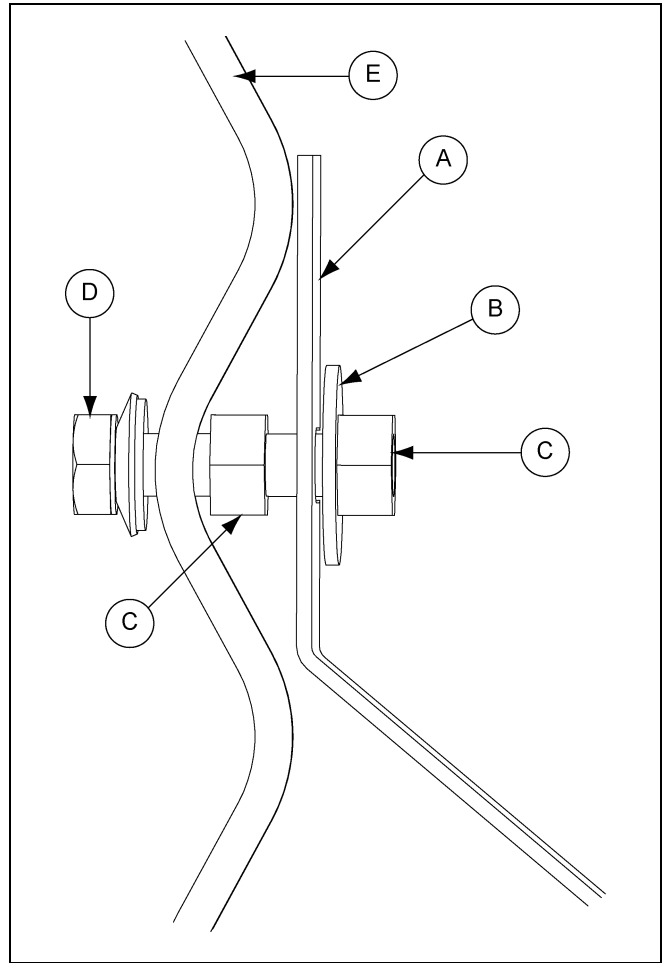
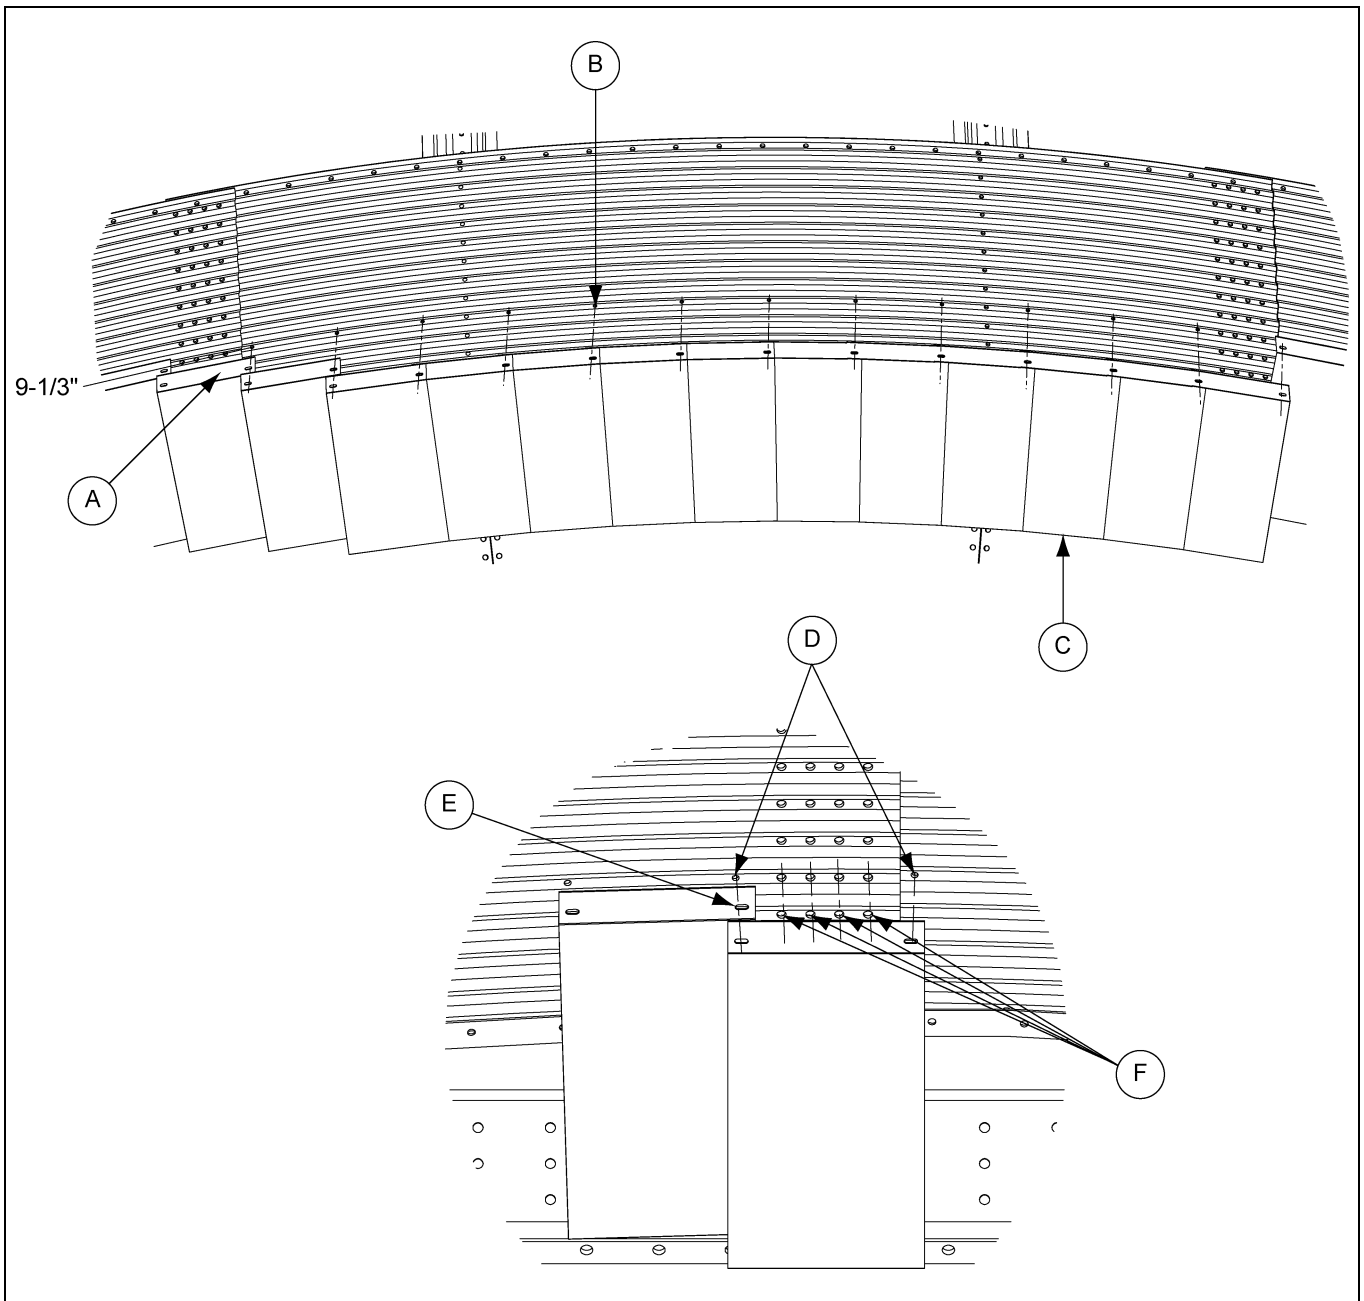

Figure 11B Vertical Seam Flashing Hardware
Figure 11C
3. At vertical seams attach flashing (A) that is to span the vertical seams using both left and right holes. Drill flashing holes from the outside of the bin through the sidewall sheet (E) holes. Remove drilled flashing (A) and assemble vertical seam bolts and nuts (C and D). (See Figure 11C on Page 71.) Replace drilled flashing (A) and attach according to Figure 11B. Continue around the bin clockwise.